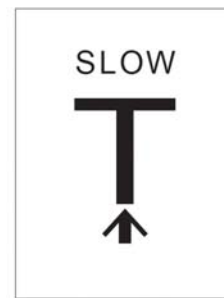

Fig. 5
- (1) When entering an aircraft parking stand using the system, the pilots should maneuver the aircraft at a low speed to the stopping position. In an event when "SLOW" is indicated on the display screen, the pilots should further decelerate the taxiing speed to avoid overshooting. (Fig.5)